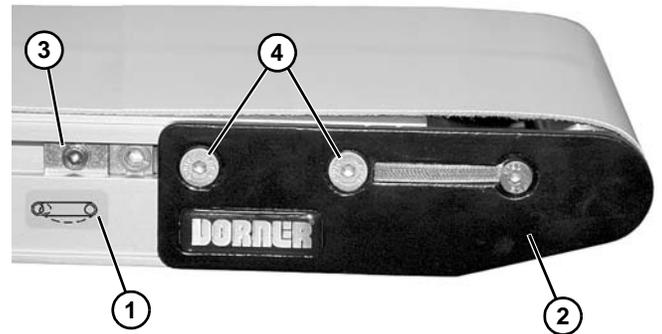

Figure 60
- On tension end of the conveyor, identified with  a label (**Figure 60, item 1**), push in head plate assembly (**Figure 60, item 2**):
- On both sides of conveyor, loosen and move cam tracking assemblies (**Figure 60, item 3**) (if equipped) away from head plates.
- Loosen fastening screws (**Figure 60, item 4**) and push head plate assembly inward.